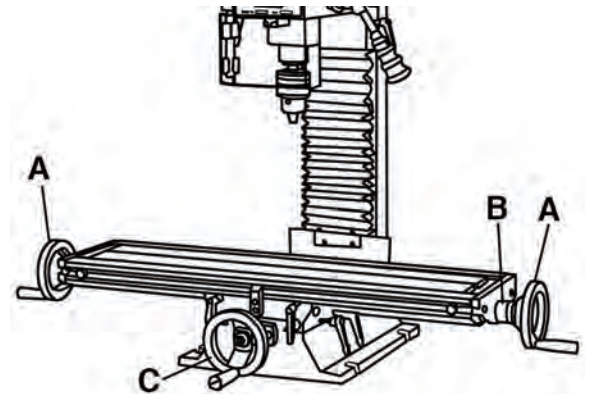
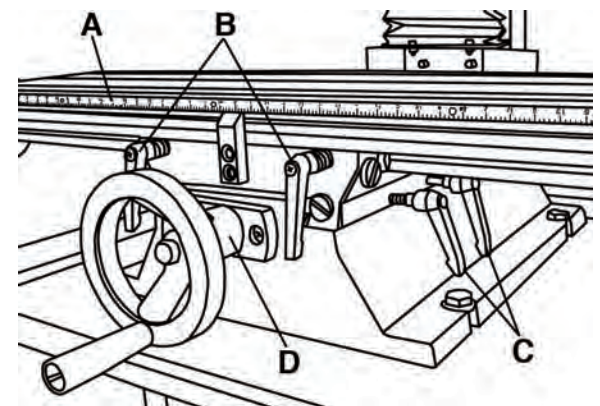

FIGURE 15
FIGURE 16
- 1) The table can be moved in the longitudinal direction (X-axis) by turning the handwheels (A) Fig.15. These handwheels will move the table side-to-side. One complete revolution of either handwheel moves the longitudinal feed 0.100".
- 2) There is also a scale (A) Fig.16 on the front of the table for use when a tight tolerance is not required. When tight tolerance is needed, use the scale (B) Fig.15 on each handwheel.
- 3) The longitudinal travel can be locked in position by tightening table lock handles (B) Fig.16 located on the front of the table.
- 1) The table can be moved in the cross direction (Y-axis) by turning the handwheel (C) Fig.15 on the front of the table base. One complete revolution of the handwheel moves the cross slide 0.100".
- 2) The cross travel can be locked in position by tightening table lock handles (C) Fig.16 located on the right side of the base underneath the table.
- 3) When tight tolerance is needed, use the scale (D) Fig.16 of the cross travel handwheel.